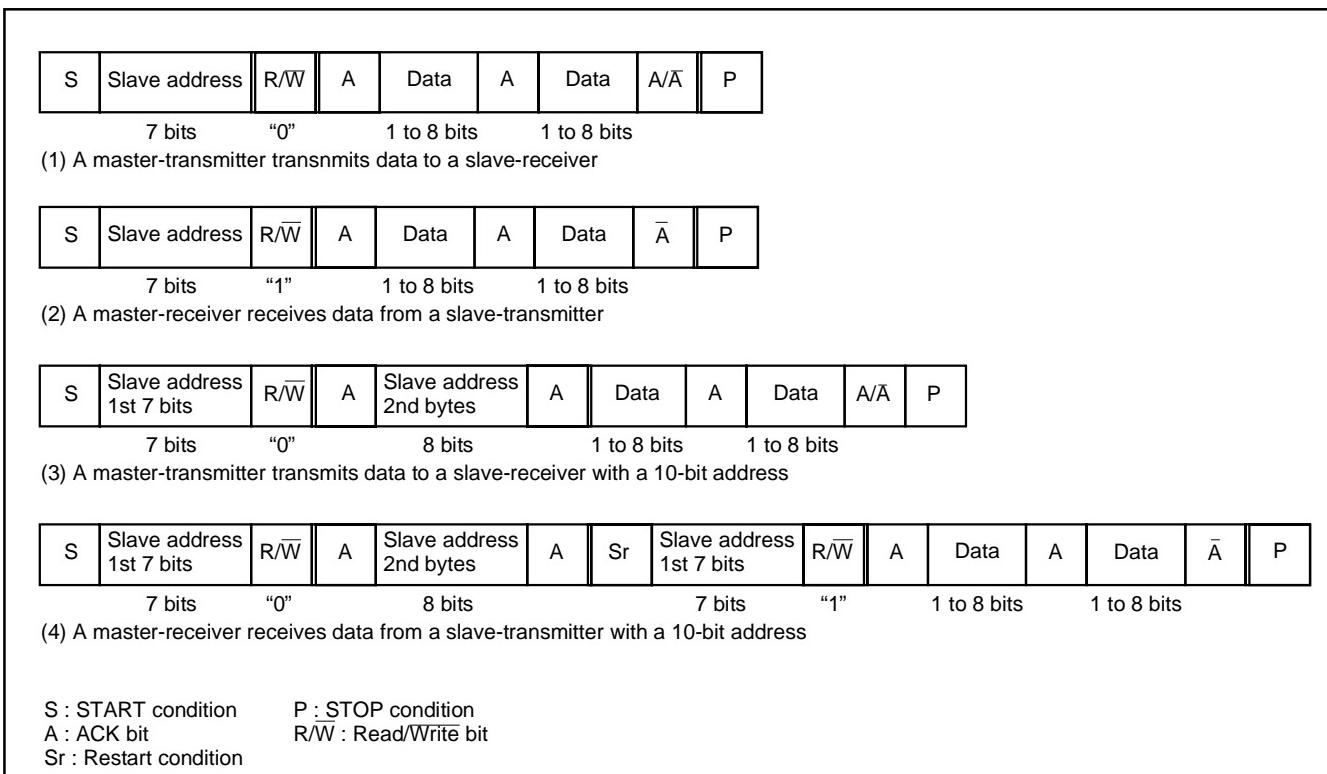

Fig. 42 Address data communication format
① 7-bit addressing format
To adapt the 7-bit addressing format, set the 10BIT SAD bit of the I²C control register (S1D) to "0". The first 7-bit address data transmitted from the master is compared with the high-order 7-bit slave address stored in the I²C address register (S0D). At the time of this comparison, address comparison of the RWB bit of the I²C address register (S0D) is not performed. For the data transmission format when the 7-bit addressing format is selected, refer to Figure 42, (1) and (2).
② 10-bit addressing format
When the first-byte address data agree with the slave address, the AAS bit of the I²C status register (S1) is set to "1". After the second-byte address data is stored into the I²C data shift register (S0), perform an address comparison between the second-byte data and the slave address by software. When the address data of the 2 bytes agree with the slave address, set the RWB bit of the I²C address register (S0D) to "1" by software. This processing can make the 7-bit slave address and R/W data agree, which are received after a RESTART condition is detected, with the value of the I²C address register (S0D). For the data transmission format when the 10-bit addressing format is selected, refer to Figure 42, (3) and (4).